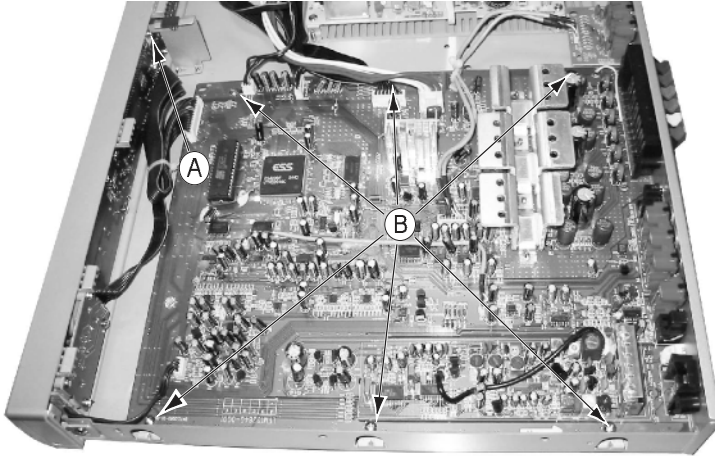

Figure 1
- 1 screw "A" on the inside as indicated in Figure 1.
- 1) Loosen 6 screws "B" on the top of main board as shown in figure 1.